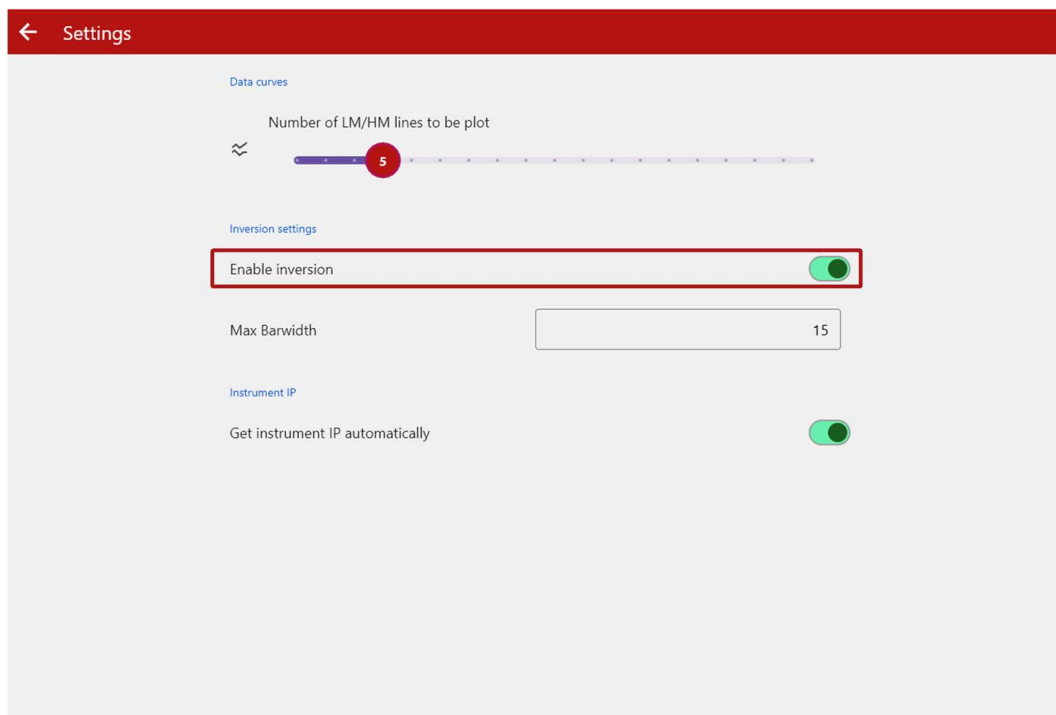

Figure 18. Enable/Disable inversion option in Settings menu.
- a) **Inversion is turned off** – Go to the **Settings** and make sure inversion is enabled (Figure 18).